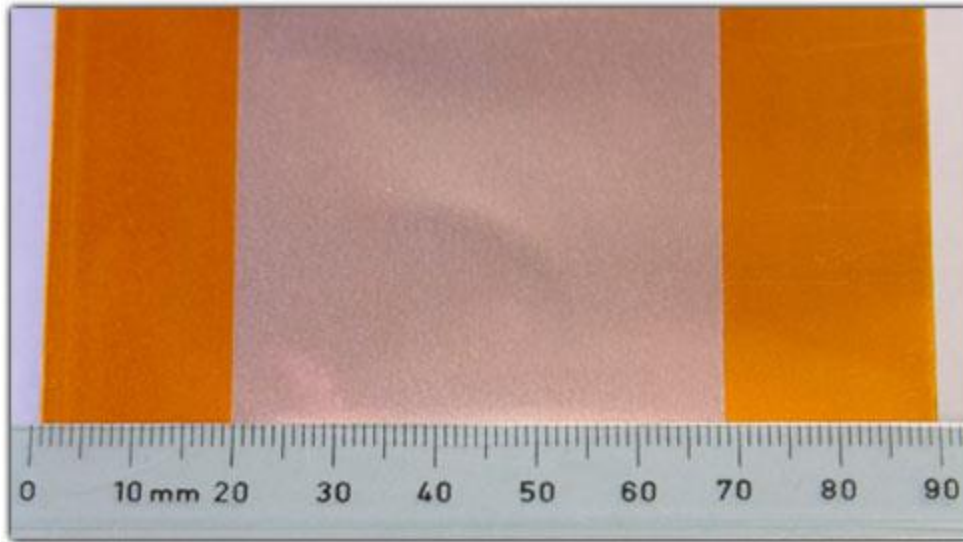

Figure 1. A copper ground strip of recommended width
*When using copper straps for grounding, make sure they are sufficiently wide. Commonly referred to as the "skin effect," high-frequency power and AC low-frequency power travel only on the surface of the strap. Therefore, your grounding strap should have as much surface area as possible. Figure 1 shows a ground strap of recommended width.*